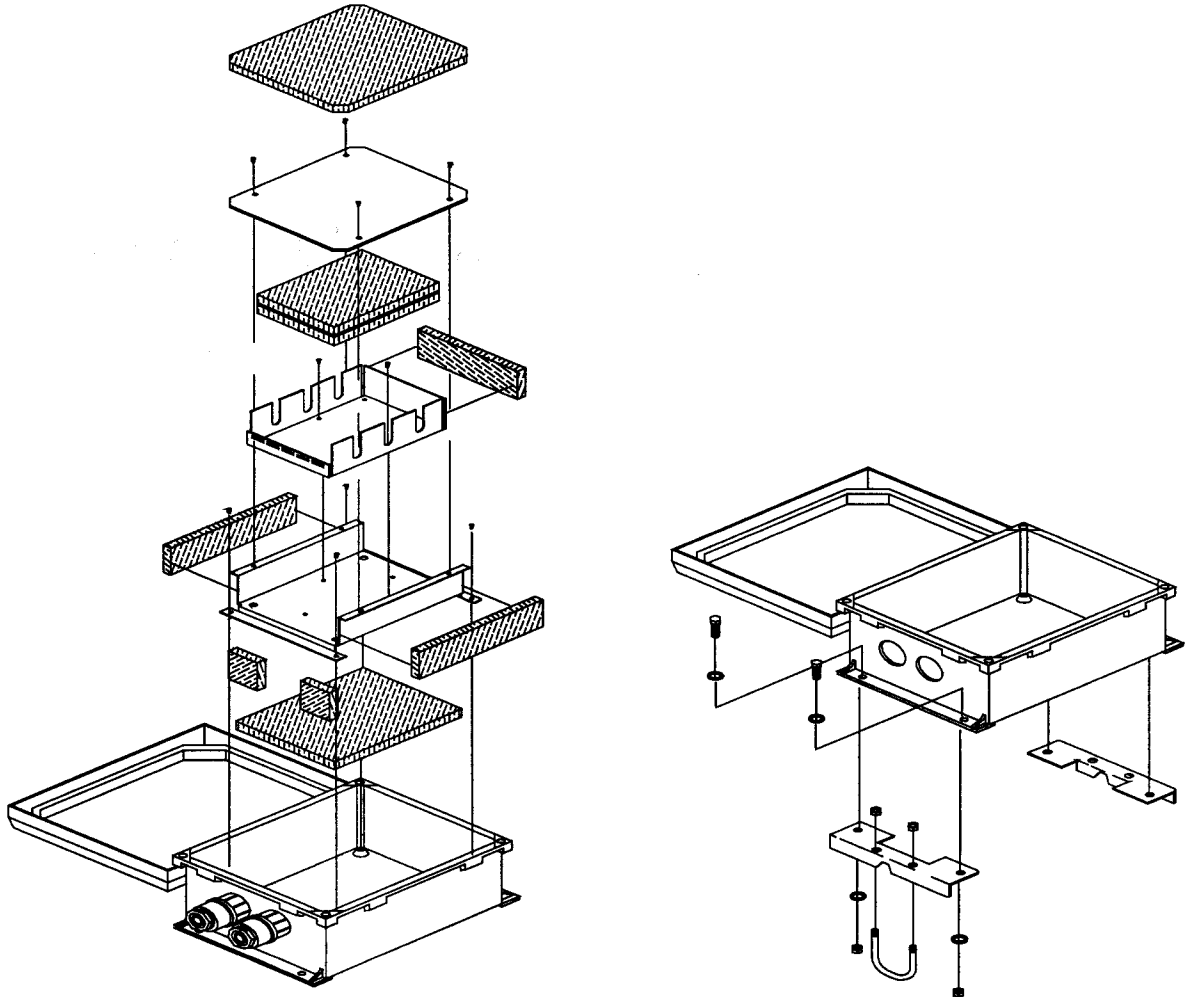
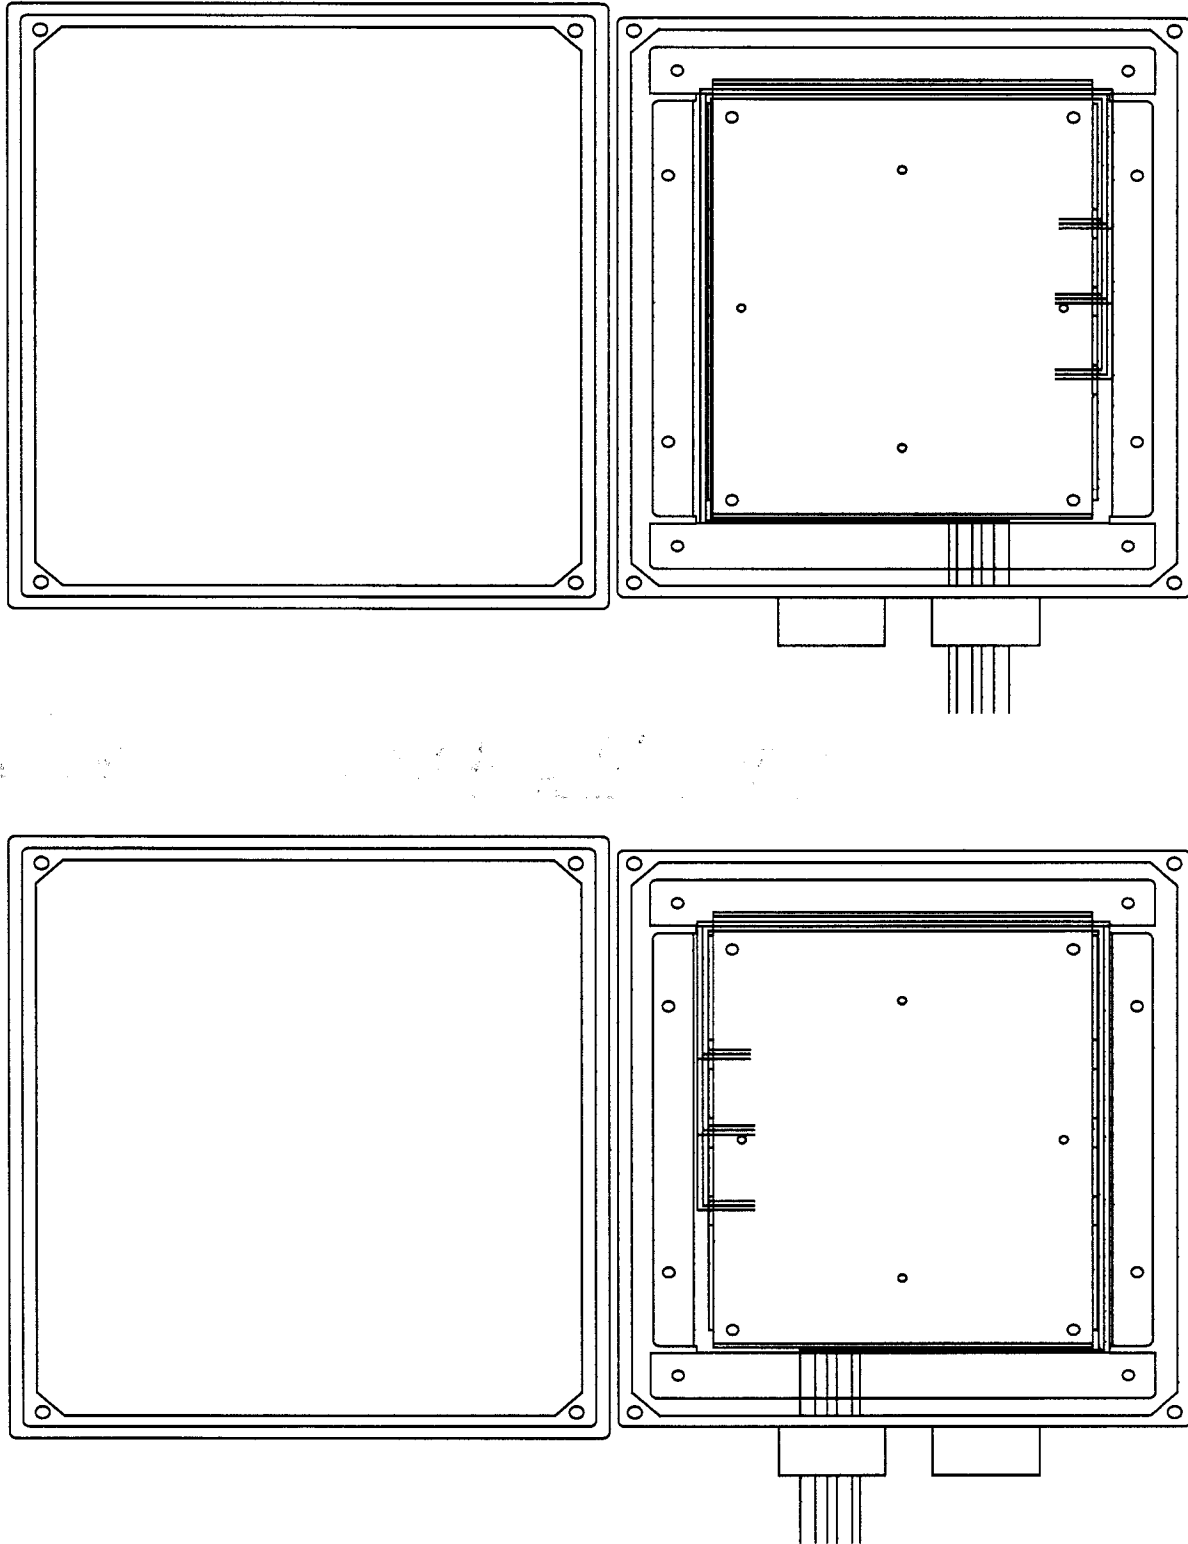

FIGURE 1. The AM-ENCT Enclosure Showing Internal Aluminum Plates and Insulation (Cross-Hatched)
FIGURE 2. Thermocouple Lead Wire Routing
The AM-ENCT (Analog Multiplexer ENClosure for Thermocouples) consists of a white fiberglass box, external mounting brackets with U-bolts, specialized cable conduits, foam insulation, and aluminum plates for minimization of thermal gradients, lead wire routing and multiplexer mounting (Figure 1). These components are shipped pre-assembled from Campbell Scientific. If the AM-ENCT is ordered with an AM416 or AM32 multiplexer, the multiplexer is mounted in the AM-ENCT at the factory. If the AM-ENCT and multiplexer are
4. Open the AM-ENCT enclosure and remove the cover plate and foam insulation (Figure 1). The multiplexer mounts to the backplate labeled "1A" in Figure 1.
All sensor and datalogger connection cables should be routed through the conduits on the lower surface of the enclosure (Figure 1). Each conduit port includes a two-piece bushing set and a slip-in reducing plug which seats inside the external female bushing. The internal diameter of the bushings is 1.25 inches and the internal diameter of the reducing plugs is 0.5 inches. The reducing plugs may be removed to accommodate large diameter cables.
Aluminum Plate A (Figure 1) provides a framework for thermocouple lead wire routing. Leads should be attached to the strain relief flange on Plate A then routed around the outside of the plate to one of the u-shaped slots opposite an input terminal. Leads should be routed at least half-way around the enclosure (Figure 2) to dissipate heat/cold introduced through conduction along the lead wires.